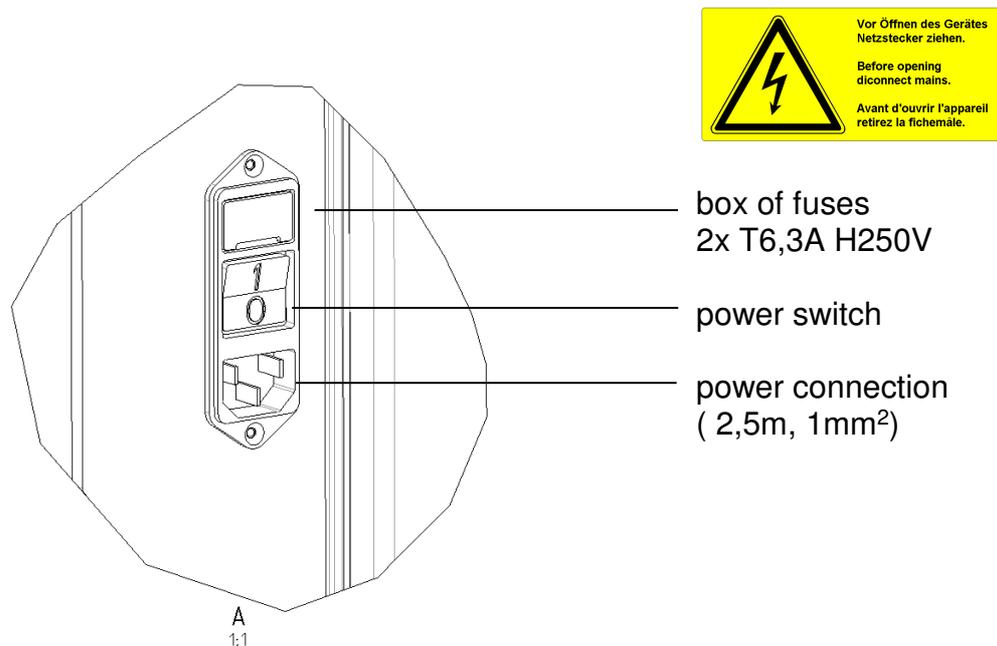

Figure 7: power connection
- You can find the mains fuses in the fuse box on the side face of the examination unit (figure 7, position 3)